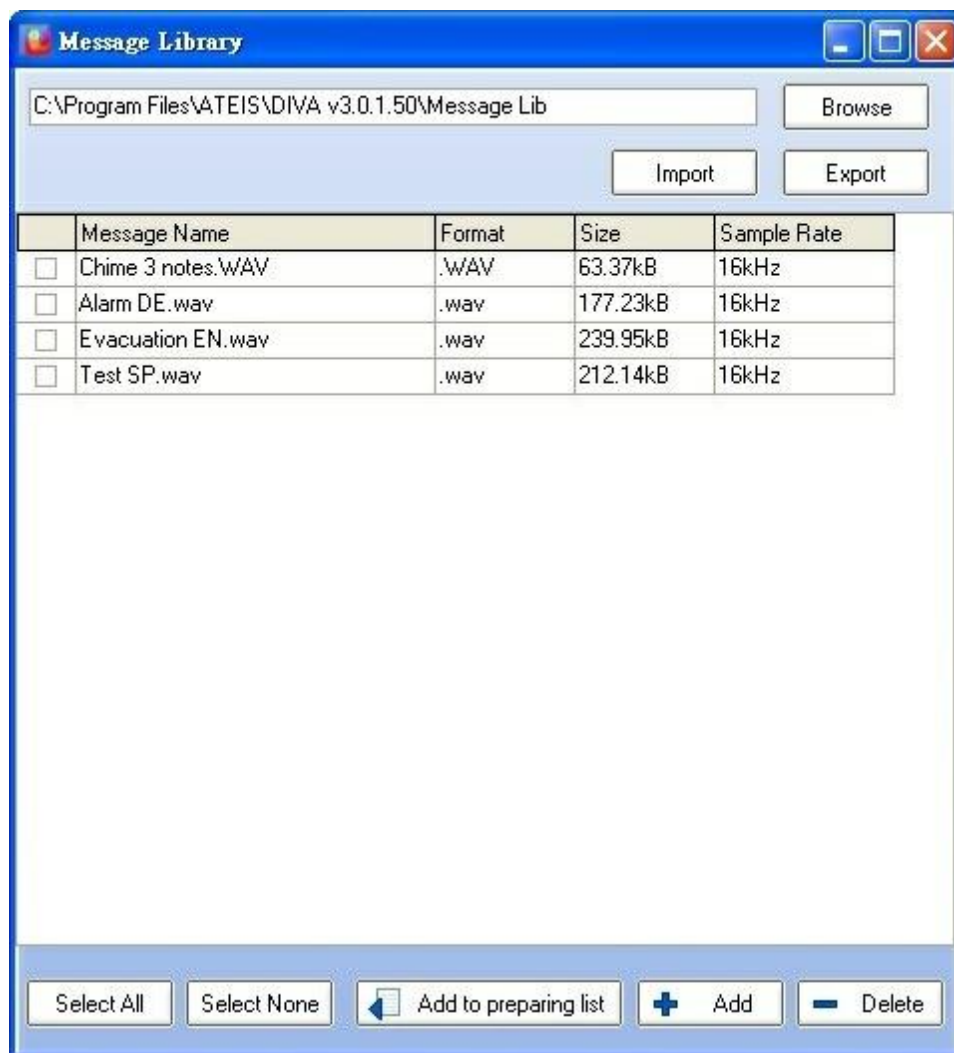

Figure 15: Message Manager Library page
- Click on the "MSG Manager" button. A new "Message Library" window appears. In the Library (Figure 15), all the messages in the library files are display. Simply tick the one you want, here all, to import into DIVA and click the "Add to DIVA" button. You will automatically return to Message page.